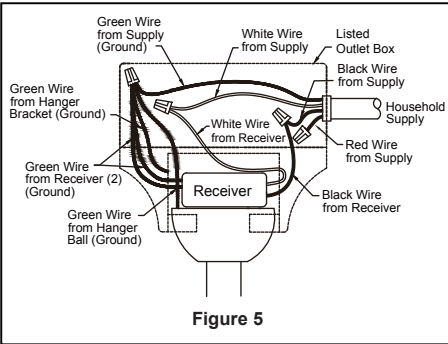

Figure 5
- ☐ 4. After connections have been made, put the white and green leads to one side and the black leads towards the other side, the connection should be turned upward and carefully push leads into the outlet box. The wires should be spread apart with the grounded conductor and the equipment-grounding conductor on one side of the outlet box and the ungrounded conductor on the other side. (Figure 5)